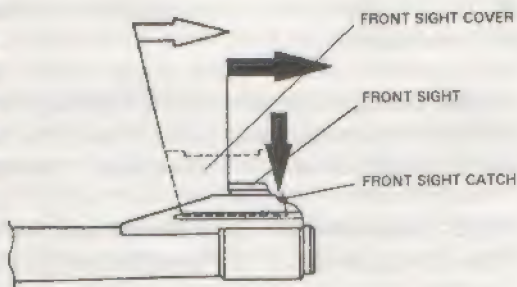

FIGURE 7
2. The front sight is mounted in a dovetail on the front side ramp and is secured by a spring-loaded catch (see Fig. 7). After depressing the spring-loaded catch, you can remove the front sight and replace it with a front sight of a different height or shape.